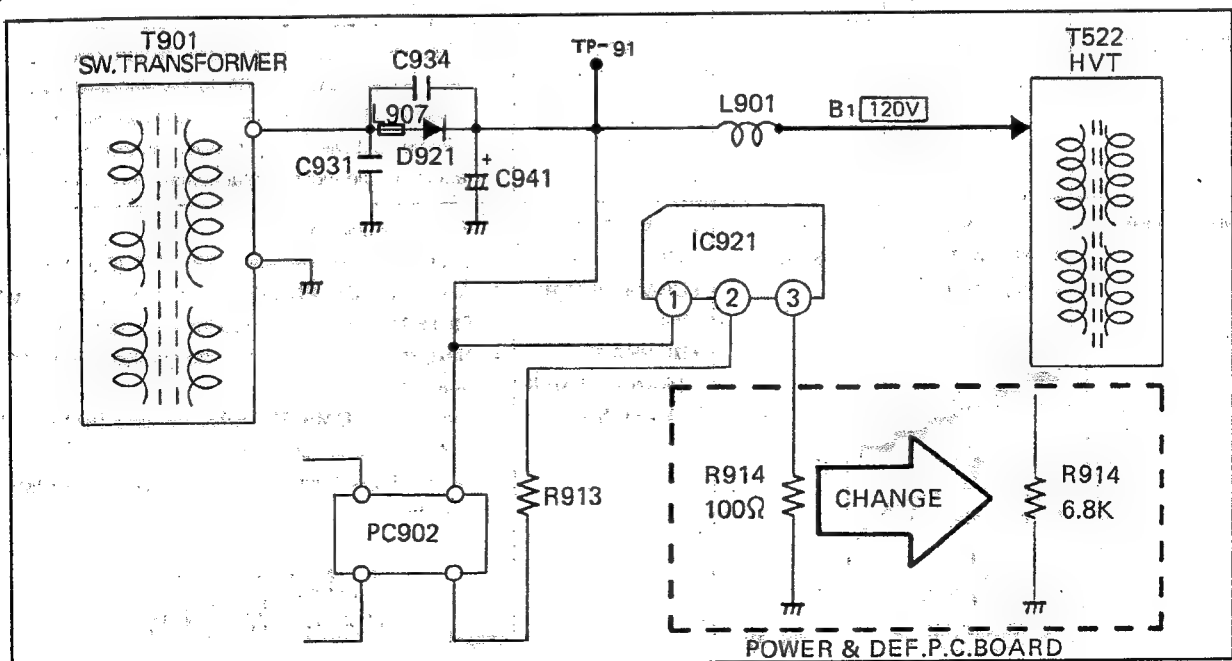

Fig. 2
<p style="text-align: center;">Fig. 2</p>
2. After loosening the set screw of the DEF. YOKE, draw the yoke fully to the rear side to let irregular color of a vertical belt form appear on the screen.	 <p>Align two purity magnets horizontally.</p> <p>Fig. 2</p>
3. Mutually pile up two PURITY MAGNETS, and set them to a horizontal position as initial magnets (Fig. 2).